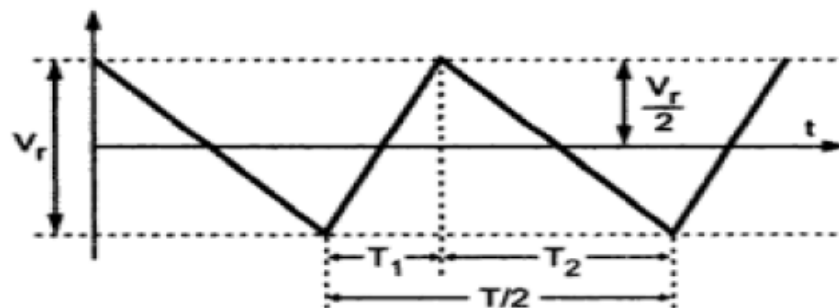

Fig. 1.43 Triangular approximation of ripple voltage
- Let V_r be the peak to peak value of ripple voltage, which is assumed to be triangular as shown in the Fig. 1.43.
- From figure 1.43, we can write